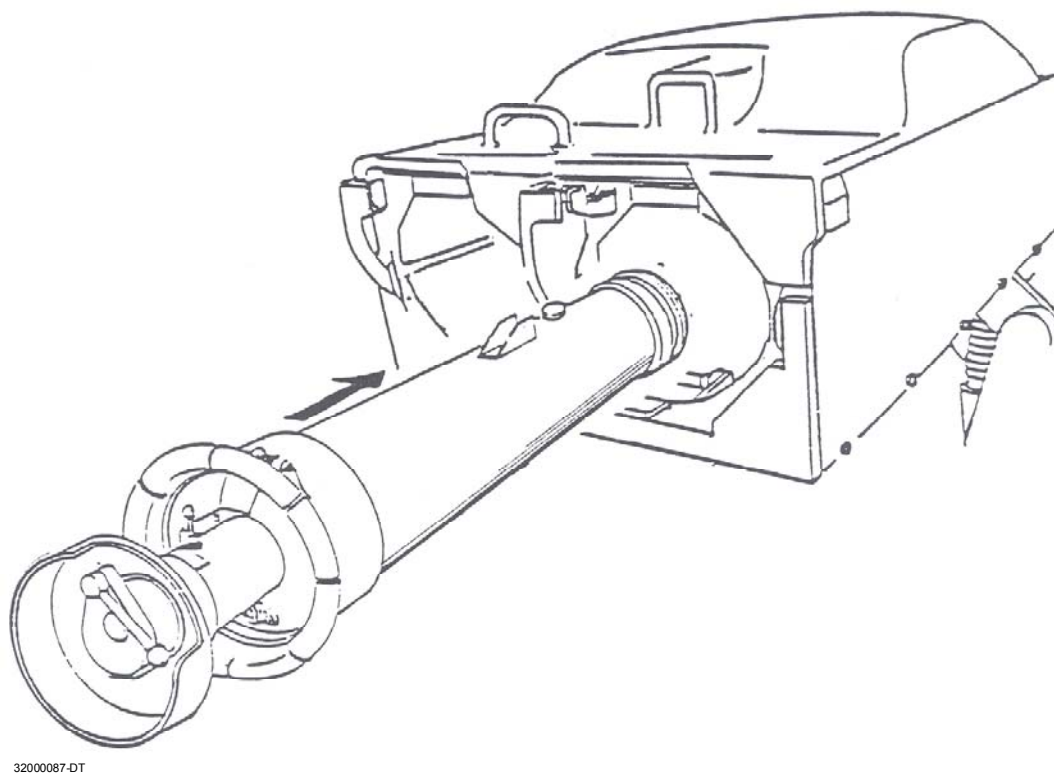

Figure 2-27. M2/M3 TOW Tube Loading.
- e. Raise the launcher and load the tube into the missile launcher as you would an actual TOW missile. (See Figure 2-27.)